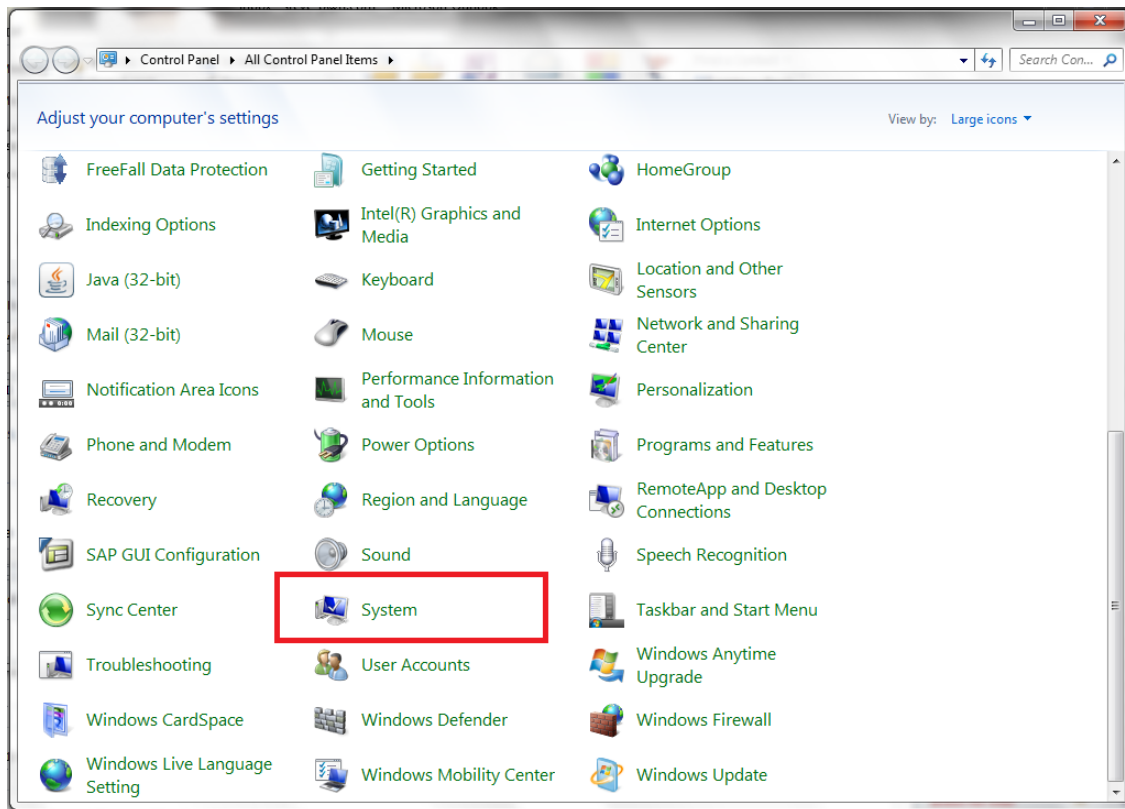

Figure 25. Windows® Control Panel Window
- Step 2. From the *Control Panel* window, click the *System* icon (see Figure 25).